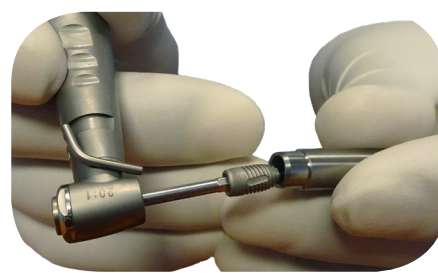

Fig 9.0
c. Place the implant motor mount into the handpiece and use it to remove the implant from the barrel. Confirm that the motor mount is engaged into the implant (Fig 9.0).